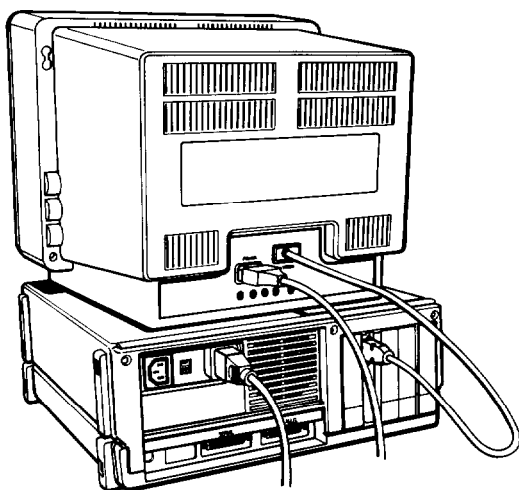

Figure 1-5. Connecting the monitor cable
2. Connect the appropriate end of the video monitor cable to your monochrome or color/graphics card connector at the back of the main unit, as shown in Figure 1-5. If the plug has retaining screws, tighten them with a screwdriver.